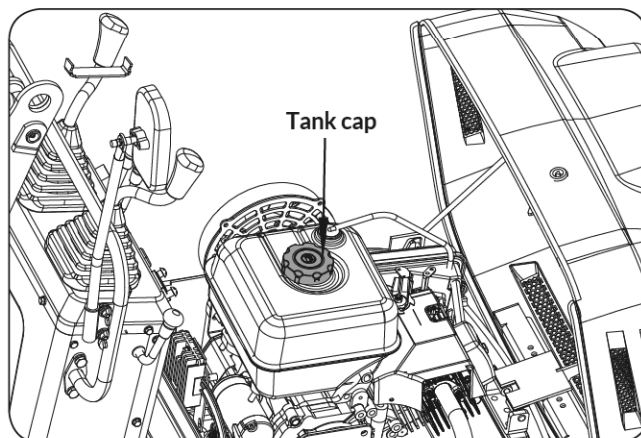

Figure 75
2. Open the tank cap, and fill with fuel. (See **Figure 75**)